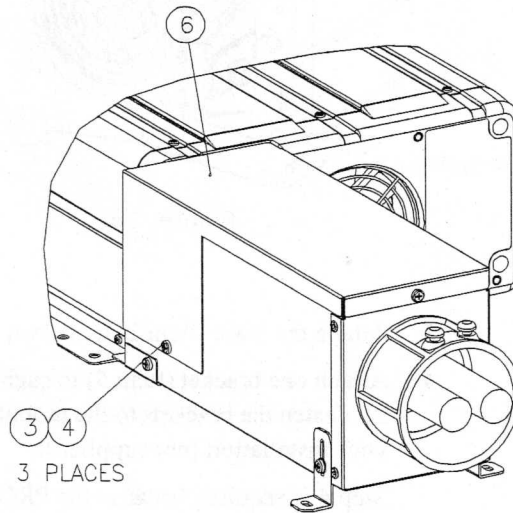

Figure 3
8. Install the Cover as shown in Figure 3.